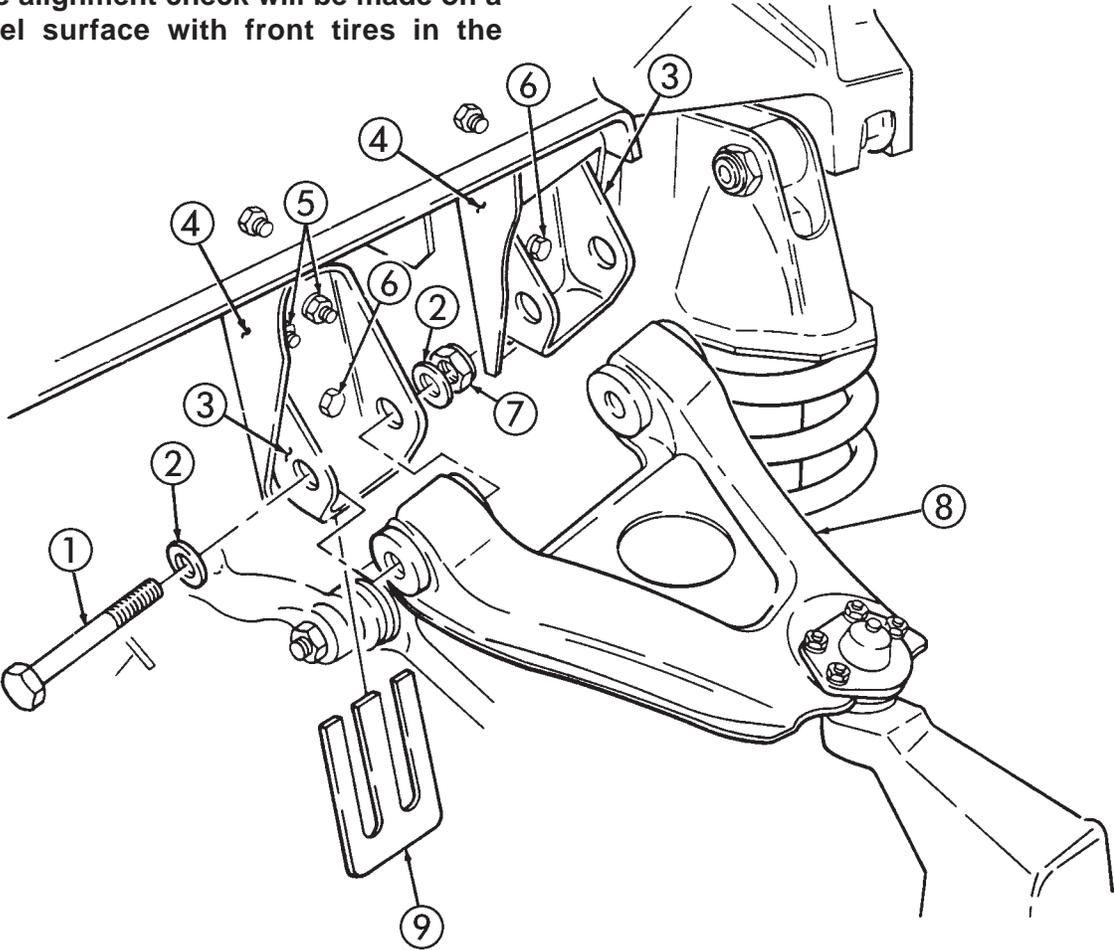

Figure 7-14 . Caster and Camber Adjustment.
**D. CASTER & CAMBER CHECK AND ADJUSTMENT PROCEDURES (Figure 7-14)**